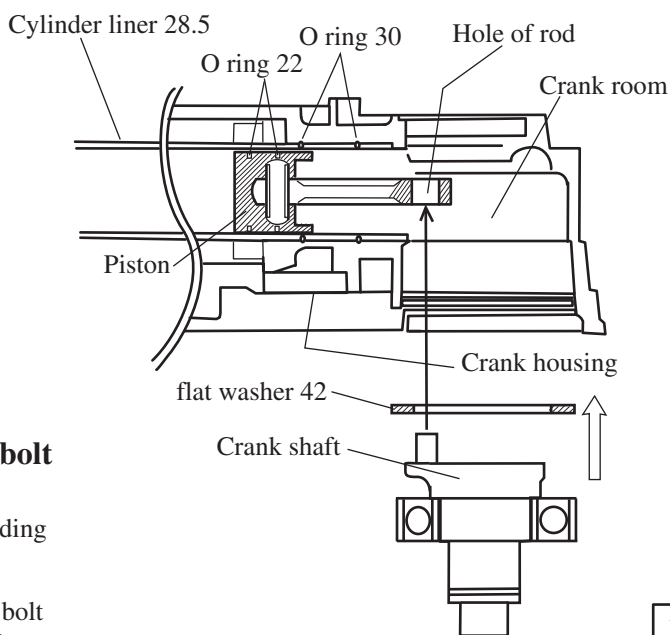

Fig. 18
2. Push the piston into the cylinder 28.5 till the hole of rod can be seen through the hole of crank housing. (see Fig. 18)
3. Assemble crank shaft on crank housing with fitting the pole of crank shaft in the hole of rod. (see Fig. 18)